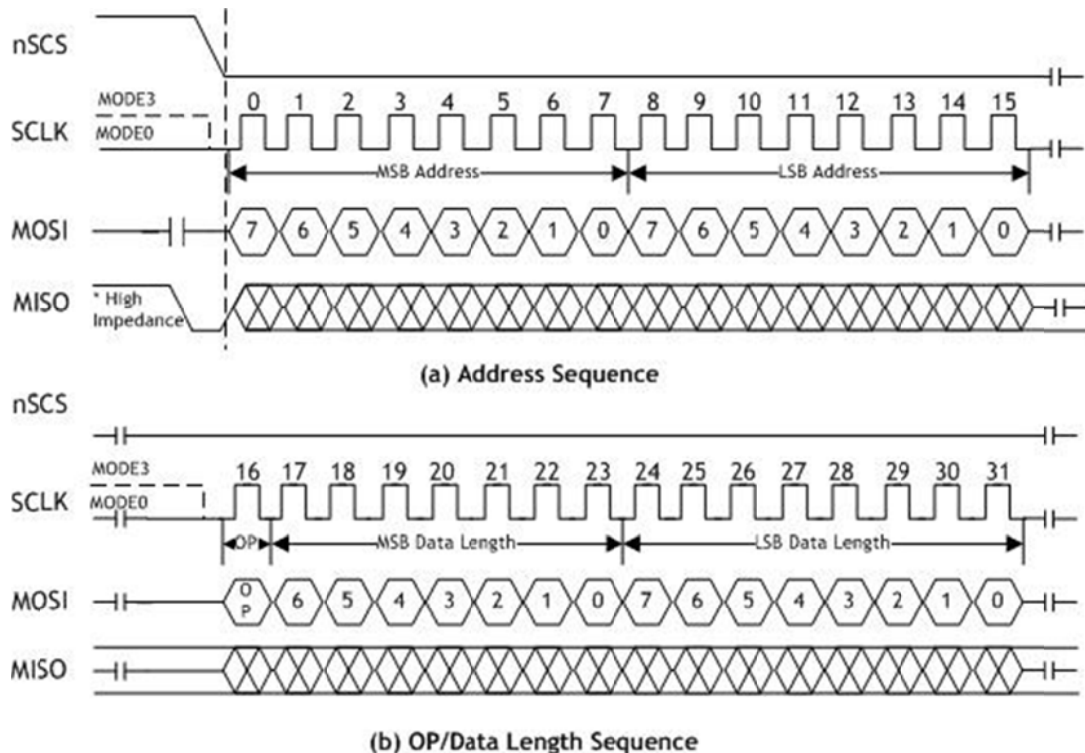
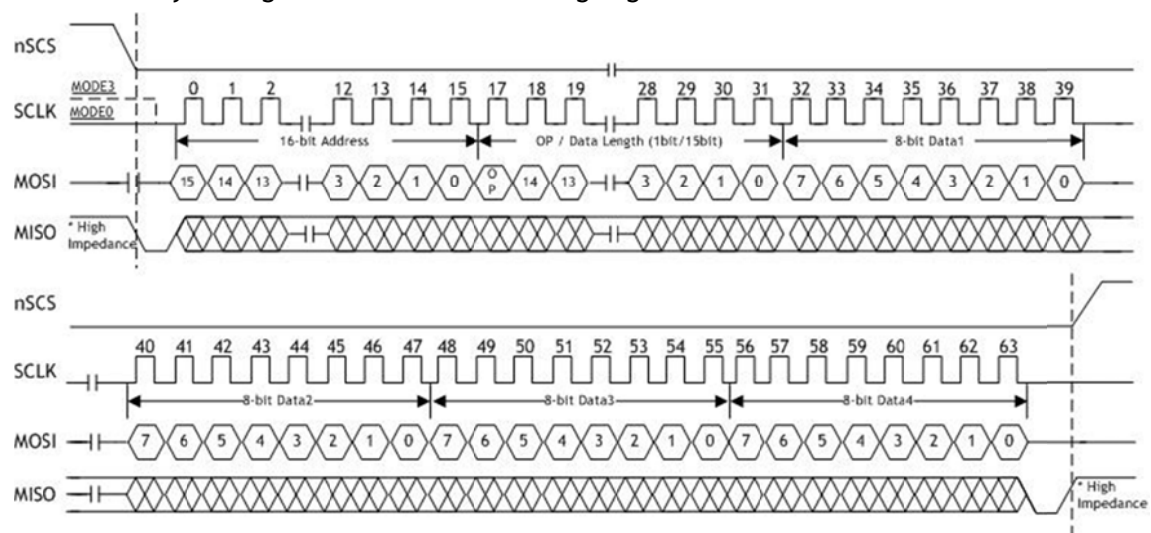

Figure 19 Address and OP/DATA Length Sequence Diagram
Figure 20 READ Sequence
The READ Processing Sequence Diagram is shown in Figure 20. The READ processing is entered by driving nSCS low, followed by the Address, the OP code, the Data Length and the Data byte on MOSI. The Address, the OP/Data Length Sequence Diagram and the Data are shown in Figure 19. The OP code (OP) is defined type of the READ OP and WRITE OP. On OP = 0, the read operation is selected. Otherwise, On OP = 1, the write operation is selected.